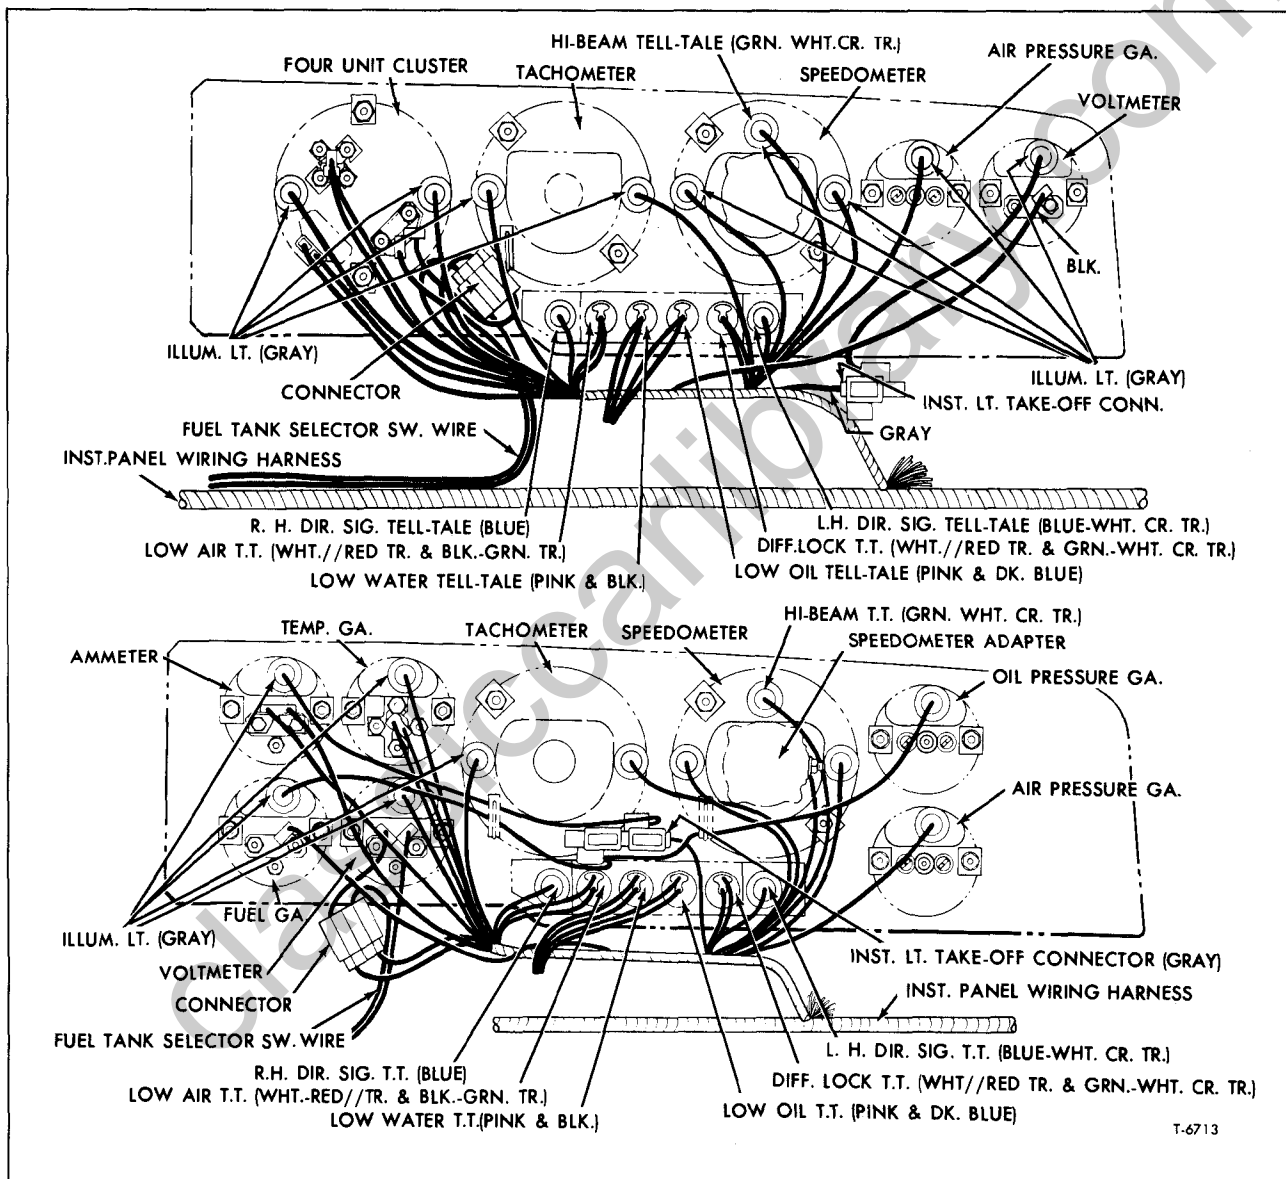

Figure 17—Connections at Rear of Instrument Cluster (Conv. Cab Models) (Typical)
1. Disconnect negative battery cable from battery, then disconnect wiring harness connectors from under dash panel. Refer to figure 17 for wiring connections at rear of cluster.
NOTE: Refer to figure 17 for wiring connections at rear of cluster.